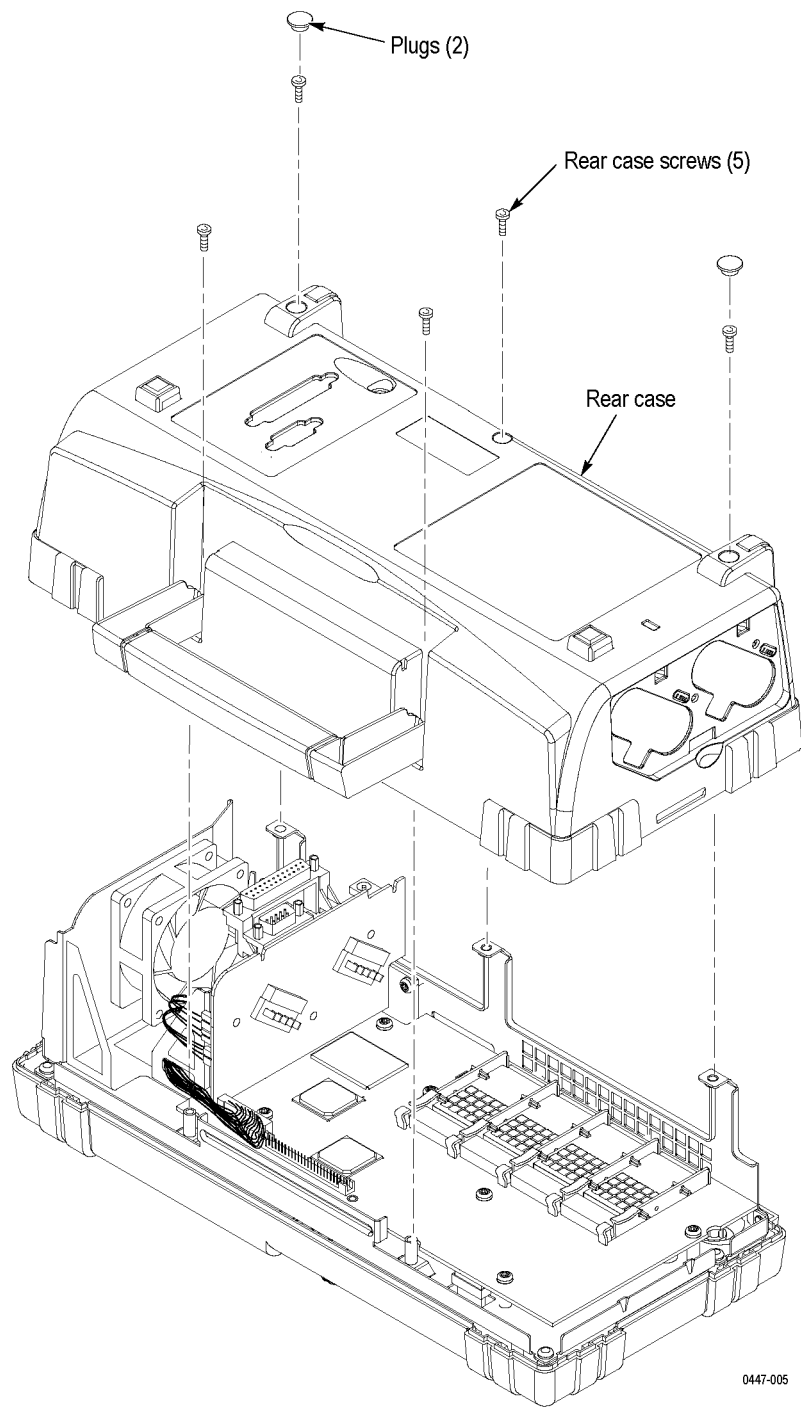

Figure 3: Removing and installing the rear case
**Removal.** To remove the rear case, follow these steps. (See Figure 3.)
**Installation.** Follow these procedure to reinstall the rear case. (See Figure 3.)